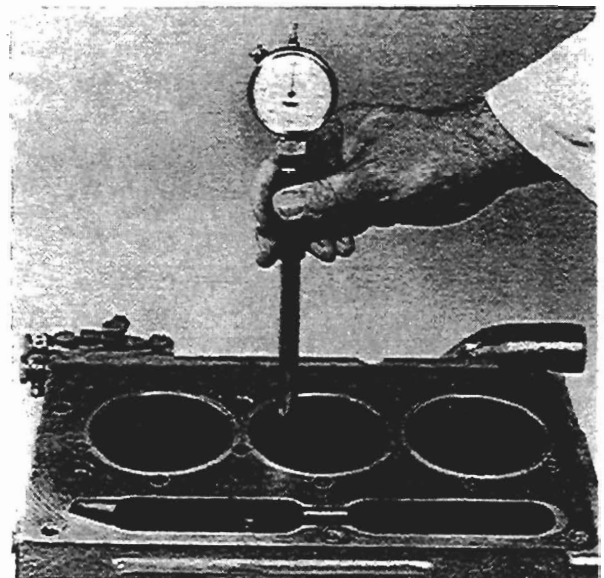

Fig. H3
3. Give the liner time to adapt to its fitted shape before the inside fitted bore diameter is checked (see fig. H3). The correct inside diameter of a pre-finished liner is 91,50/91,53 mm (3.6025/3.6035 in) for a cast iron liner or 91,48/91,50 mm (3.6015/3.6025 in) for a chromium faced liner. Each new liner must be checked in three positions – top, centre and bottom, both across and along the cylinder block at each position.